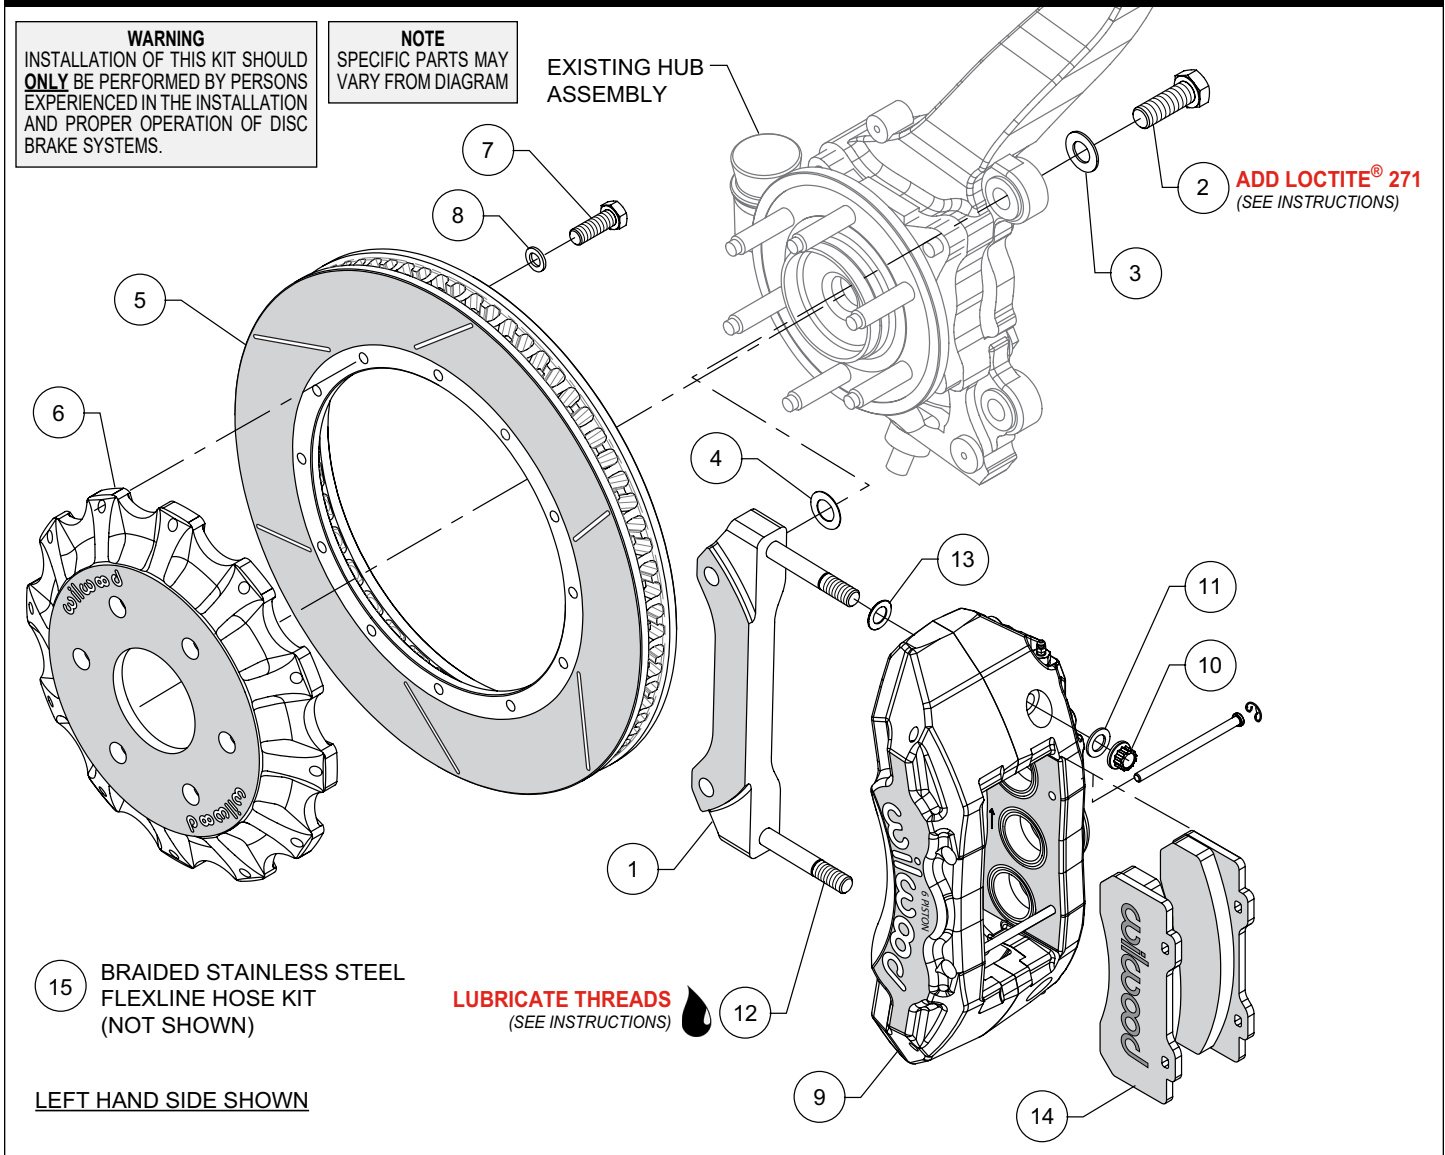
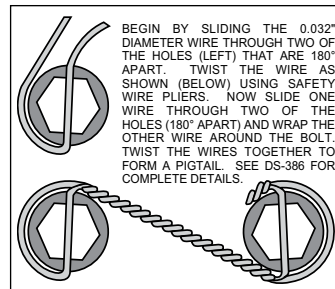

Figure 1. Typical Installation Configuration
Figure 3. Safety Wire Diagram
**NOTE:** Numbers in parenthesis refer to the parts list and Figure 1 on the preceding pages.
- The caliper mount bracket (1) should initially be installed with clean, dry threads on the mounting bolts. Orient the bracket as shown in Figure 1 and Photo 1, and install using bolts (2) and washers (3). Initially place one .024 thick shim (4) on each bolt between the bracket and upright, Figure 1. Temporarily tighten the mounting bolts. **NOTE:** The bracket must fit squarely against the mount bosses on the upright. Inspect for interference from casting irregularities, machining ridges, burrs, etc. Later, after the caliper alignment has been checked, the mount bolts will be secured using red *Loctite*® 271.
- Orient the rotor (5) and the hat (6) as shown in Figure 1 and Photo 2. Attach rotor to hat using bolts (7) and washers (8). Apply red *Loctite*® 271 to the bolt threads and torque to 25 ft-lb using a criss-cross pattern. For an added measure of security, the bolts may be safety wired using standard 0.032 inch diameter stainless steel safety wire as shown in Figure 3. Refer to Wilwood's data sheet DS-386 (available at [www.wilwood.com/Pdf/DataSheets/ds386.pdf](http://www.wilwood.com/Pdf/DataSheets/ds386.pdf)) for complete safety wire installation instructions.
- NOTE:** This kit contains distinct right and left hand calipers that must be mounted in a specific direction, as described below. Lubricate the caliper mounting studs (12) with lightweight oil. Initially place one .032" thick shim (13) on each stud as shown in Figure 1 and Photo 3. Mount the caliper (9) onto the bracket (1) using lock nuts (10) and washers (11), Figure 1. Ensure that the caliper is mounted so that the largest pistons are at the rotor exit end of the caliper, in relation to the direction of rotor rotation. Temporarily tighten the lock nuts and view the rotor through the top opening of the caliper. The rotor should be centered in the caliper, Photo 4. If not, adjust by adding or subtracting shims (4) between the bracket and the upright. Always use the same amount of shims on each of the two mounting bolts. Once the caliper alignment is correct, remove the bracket mounting bolts (2) one at a time, apply red *Loctite*® 271 to the threads, and torque to 120 ft-lb.